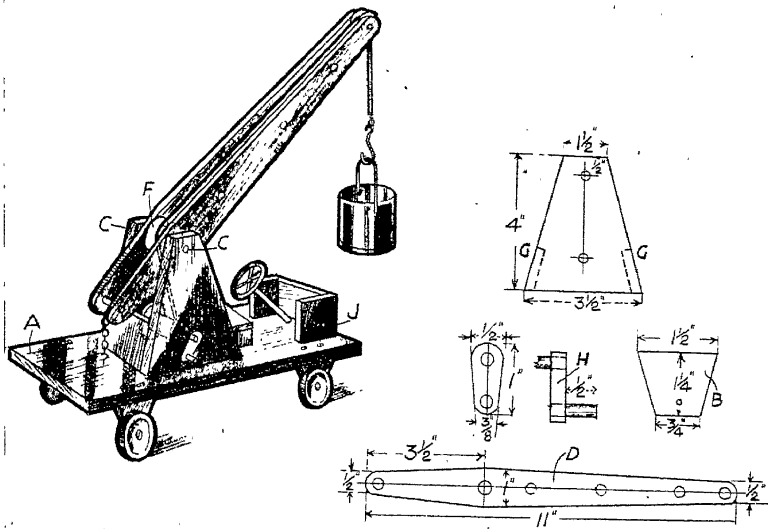

FIG.1.—The Various Parts of the Miniature Road Crane.
**T**HIS strong and instructive toy can easily be made with odd pieces of wood, a cotton reel, and pieces of wooden knitting needles. For the platform (A, Fig. 1) saw a piece of  $\frac{3}{8}$ -inch wood 8 inches long by  $3\frac{1}{2}$  inches wide. Plane it on both sides and around the edges. Cut out four pieces of  $\frac{1}{8}$ -inch wood to the size given at B, for the wheel bearings. These are screwed to the platform, as shown in Fig. 1, at a distance of  $\frac{3}{4}$  inch from each end. Now saw the two side pieces, C C, to the dimensions given at G, and carefully smooth the edges with a chisel. On the centre line of each piece make two holes as indicated, just large enough to allow a thick wooden knitting needle to pass through.
To make the jib (D), cut two pieces of  $\frac{1}{4}$ -inch wood to the shape shown in Fig. 1, and make the holes in each a tight fit for pieces of knitting needle. Cut five pieces 1 inch long, and one piece  $2\frac{1}{2}$  inches long. Glue the ends of